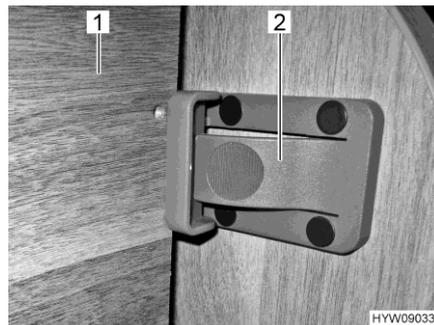

Fig. 55 Securing, front
- Lift bed (Fig. 55,1).
- Use the latch (Fig. 55,2) to secure the bed on the furniture wall.
- Press the latch (Fig. 55,2).